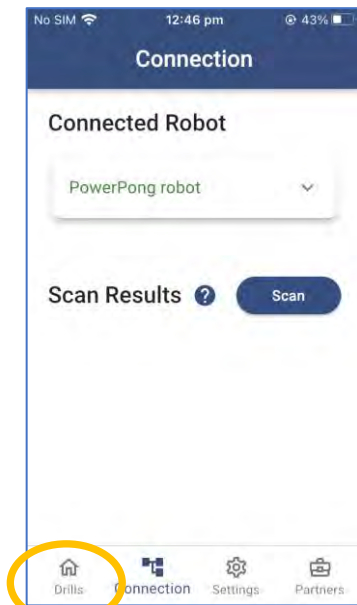
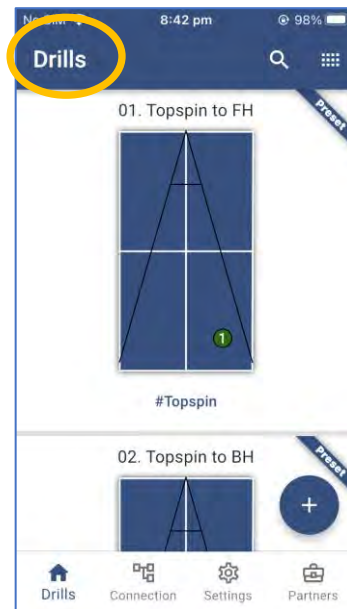

Figure 3-1
Figure 3-2
1. Select the Drills Screen by pressing the Drills button on the bottom of the App (Figure 3-1). You will then be able to see the Drills screen as shown in Figure 3-2. (Drills will be covered in greater detail, later in this section of the User Manual.)